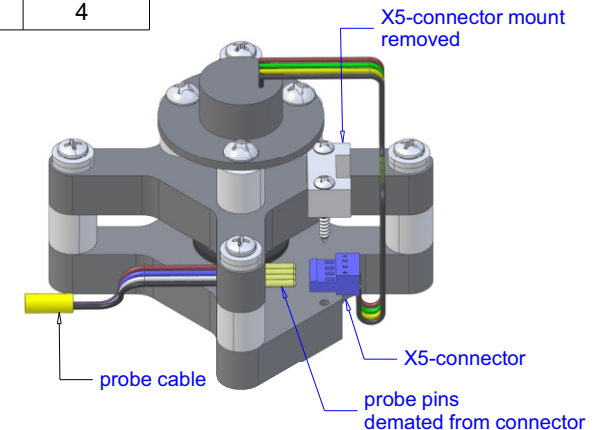

FIGURE-2
- pull probe wires to demate pins from X5-connector (figure-2)